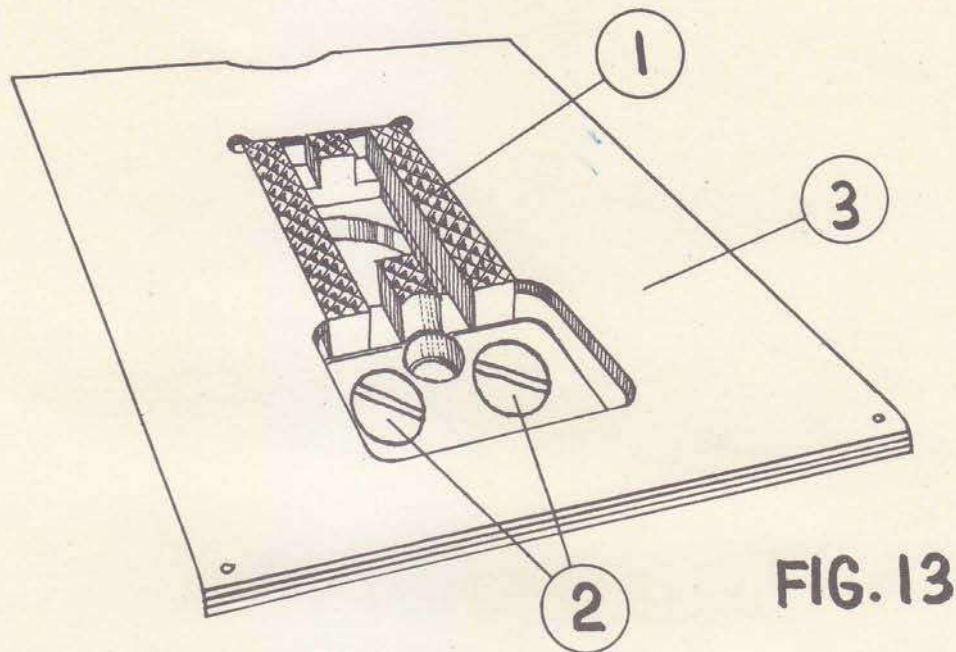

FIG. 13
1. Remove needle and presser foot, then fasten presser bar adjusting gauge No. 541361 (2) to cloth presser bar (1).
2. Lower presser foot lever until gauge rests upon needle plate (3)
5. If gauge does not line up with slots, loosen slightly black set screw (4) with allen wrench 2 millimeters (5) in presser bar guide (6) (on top of cloth presser bar) (1), then turn gauge with cloth presser bar to the left or right (as required) until gauge lines up with slots in needle plate (3).
6. Tighten black set screw (4) after this adjustment.
7. Remove gauge (2) and close front cover. Replace needle and presser foot.
10. CENTERING OF FEED DOG (Fig. 13)